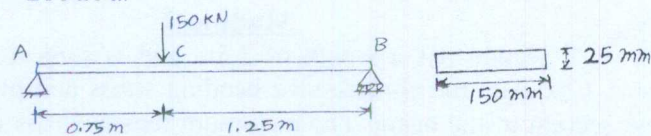

Fig Q8(a)
- 8 a. Determine the strain energy of the prismatic beam AB for the loading as shown in Fig Q8(a). Take  $E = 200 \text{ GPa}$ . (10 Marks)